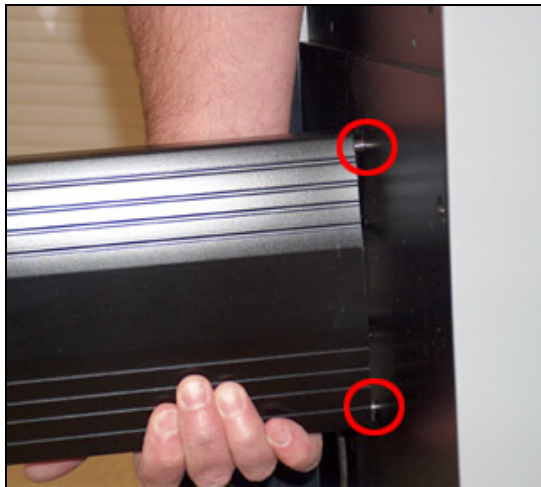

Figure 8. Attaching Crossbeam to Right Side Column
4. Hold **Crossbeam** up to **Right Side Column** (Figure 8) and align with the **Screws**.